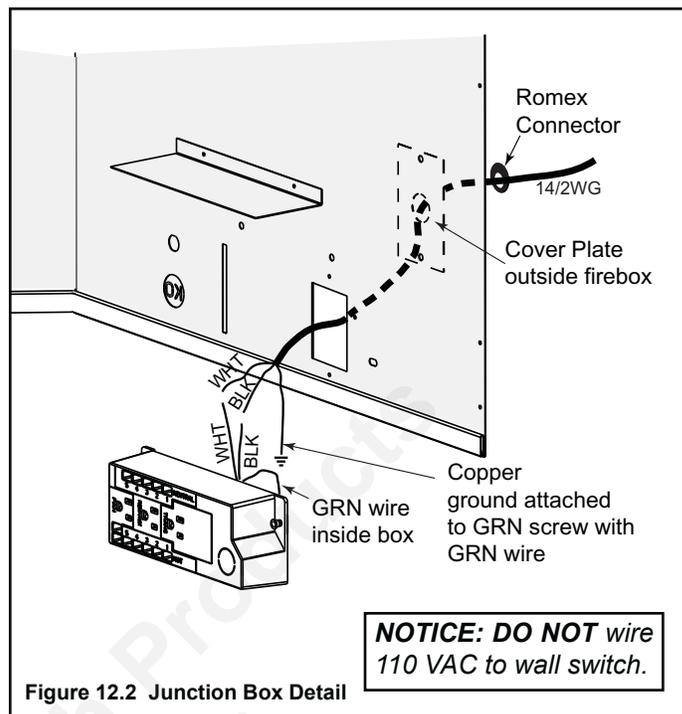

Figure 12.2 Junction Box Detail
- Remove the cover plate located on the outer shell - right side (see Figure 12.2).